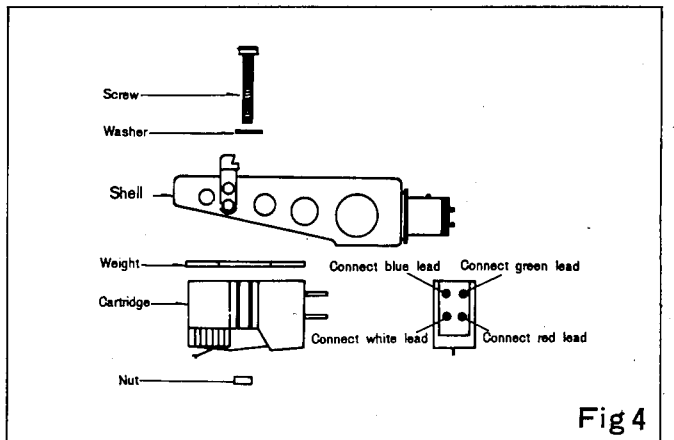

Fig 4
- b. Connect the four cords of the shell to the terminals of the cartridge. Be sure to make correct connections as shown in Fig. 4.
If the cartridge weights less than 12 grams, insert the lead weight between shell and cartridge. Otherwise, proper balancing of the tone arm cannot be obtained. Then plug the shell into the tone arm and secure it by tightening the tone arm nut. (Fig. 4)